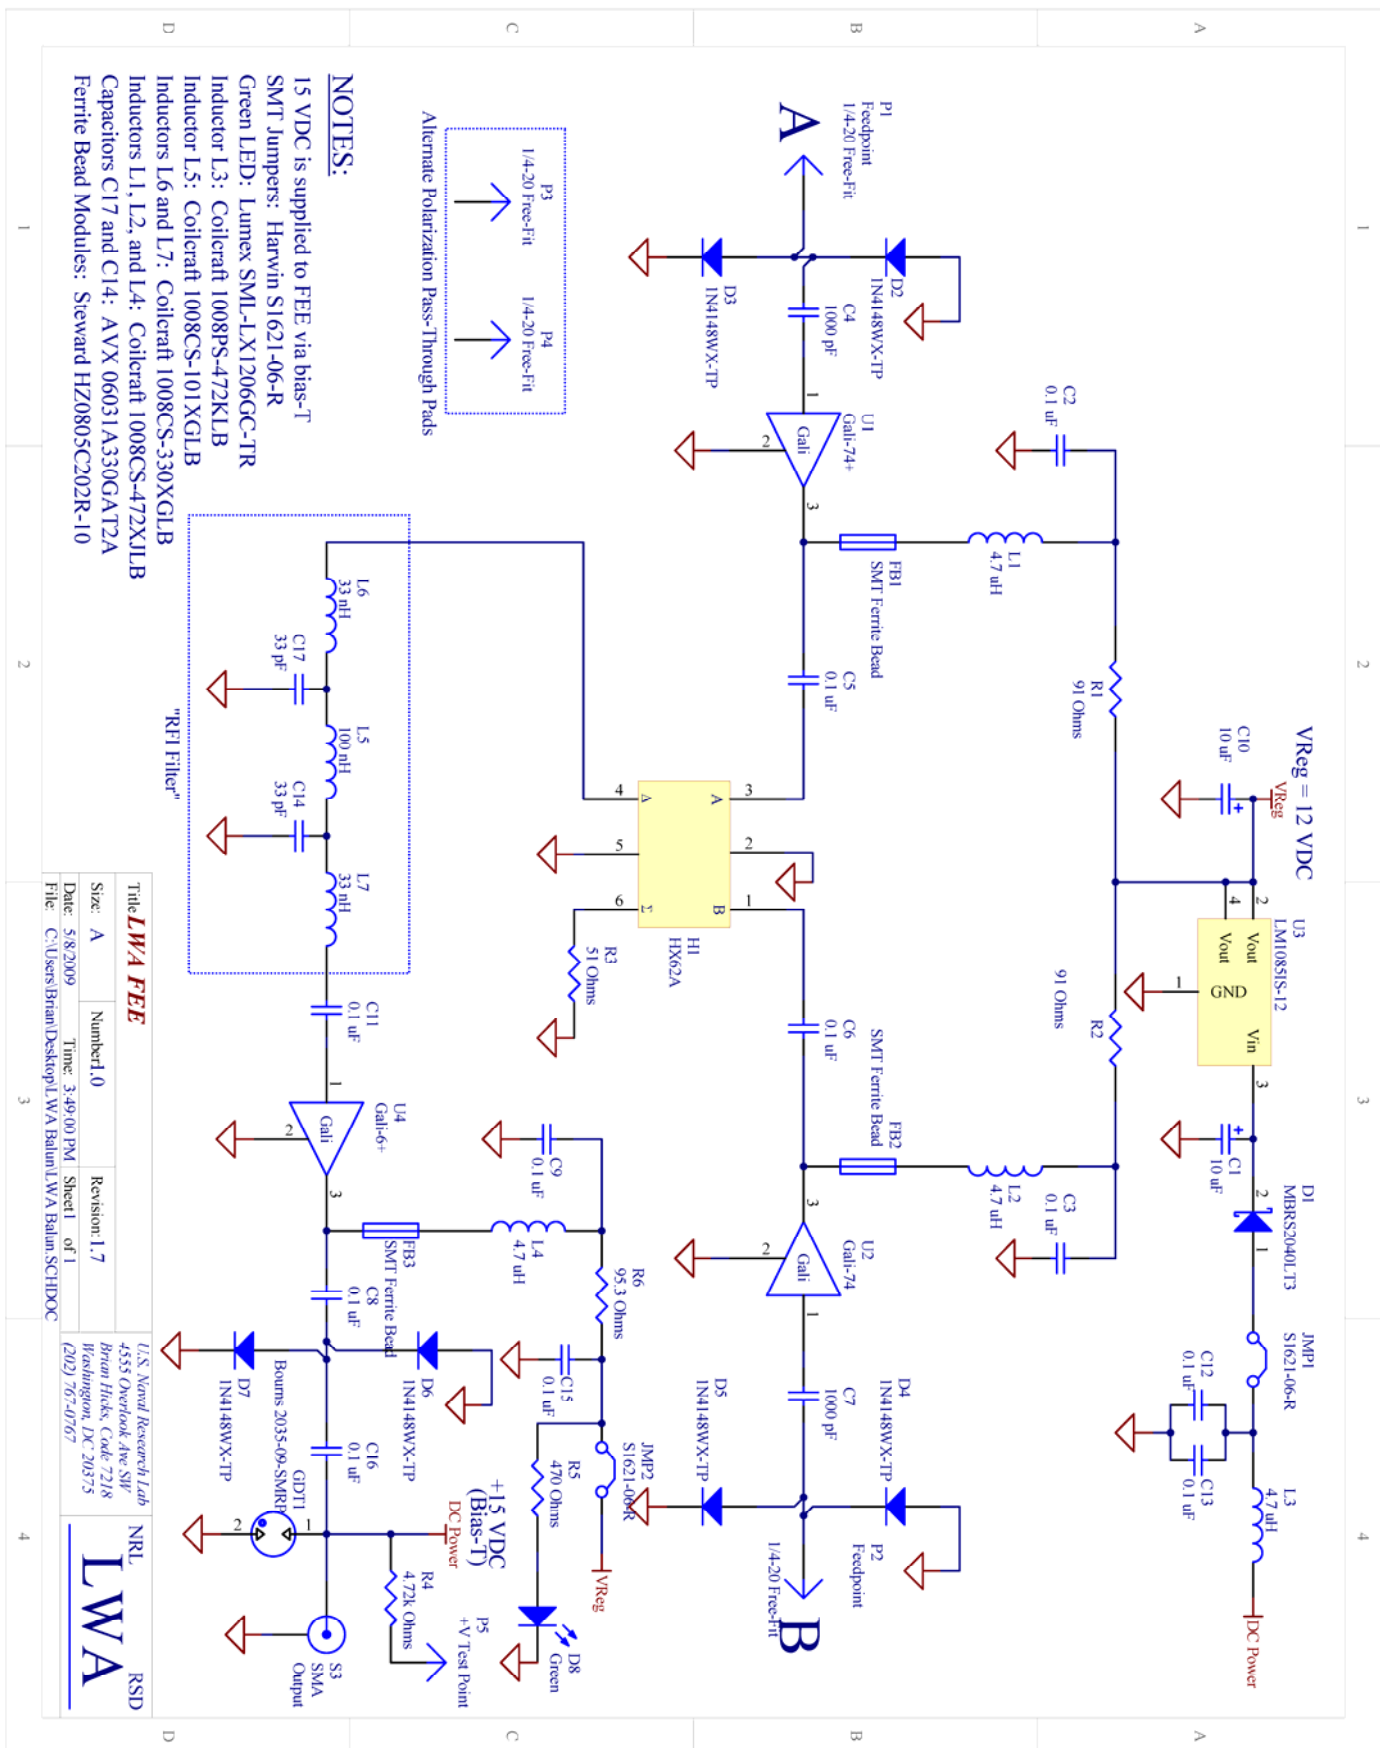

Figure 1 – Updated Schematic of the LWA FEE (Version 1.7)
To start the diagnosis and repair of a front end, set up a work station according to the diagrams in Figure 1 and 2. The spectrum analyzer should be set at a center frequency of about 100 MHz with a span of 200 MHz to completely cover the science band of the LWA. Next, it is important to calibrate the spectrum analyzer to ensure the test fixture supplies accurate information of FEE performance before, during, and after repairs. Start by removing all attenuators on the RF output from the spectrum analyzer and reconnect the cable
9. Next, check the capacitors nearby the Voltage regulator (C1 and C10), again replacing if need be. C1 and C10 fail very frequently and may show as “no power” on the board. A fast way to confirm a failure is to use an infrared thermal camera: a bad capacitor often appears unexpectedly hot when power is applied. Figure 1 shows a comparison between a standard optical image and an infrared thermal image of the same FEE board.
**Figure 1:** Comparison of optical and infrared thermal imaging of an LWA FEE board. Thermal imaging reveals a component heating that is not apparent during visual inspection.
A schematic representing the most recent revision (1.7) of the LWA FEE is given in Figure 1.